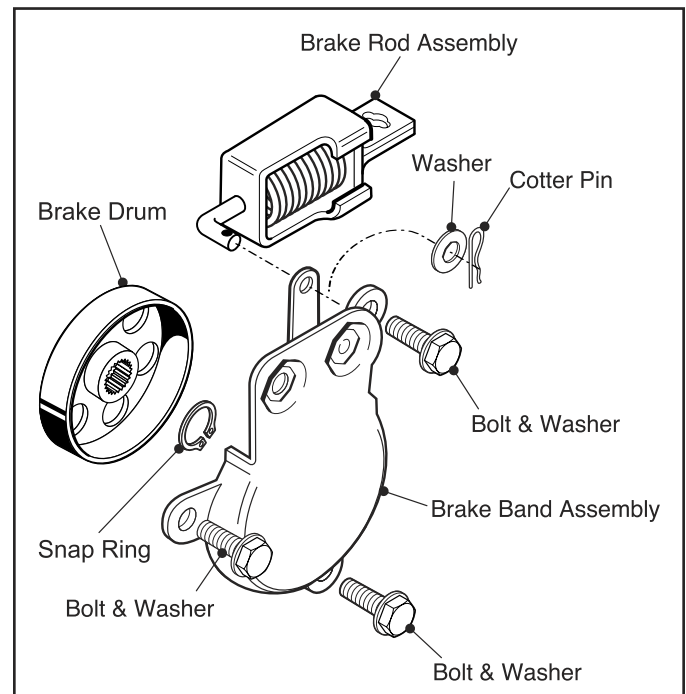
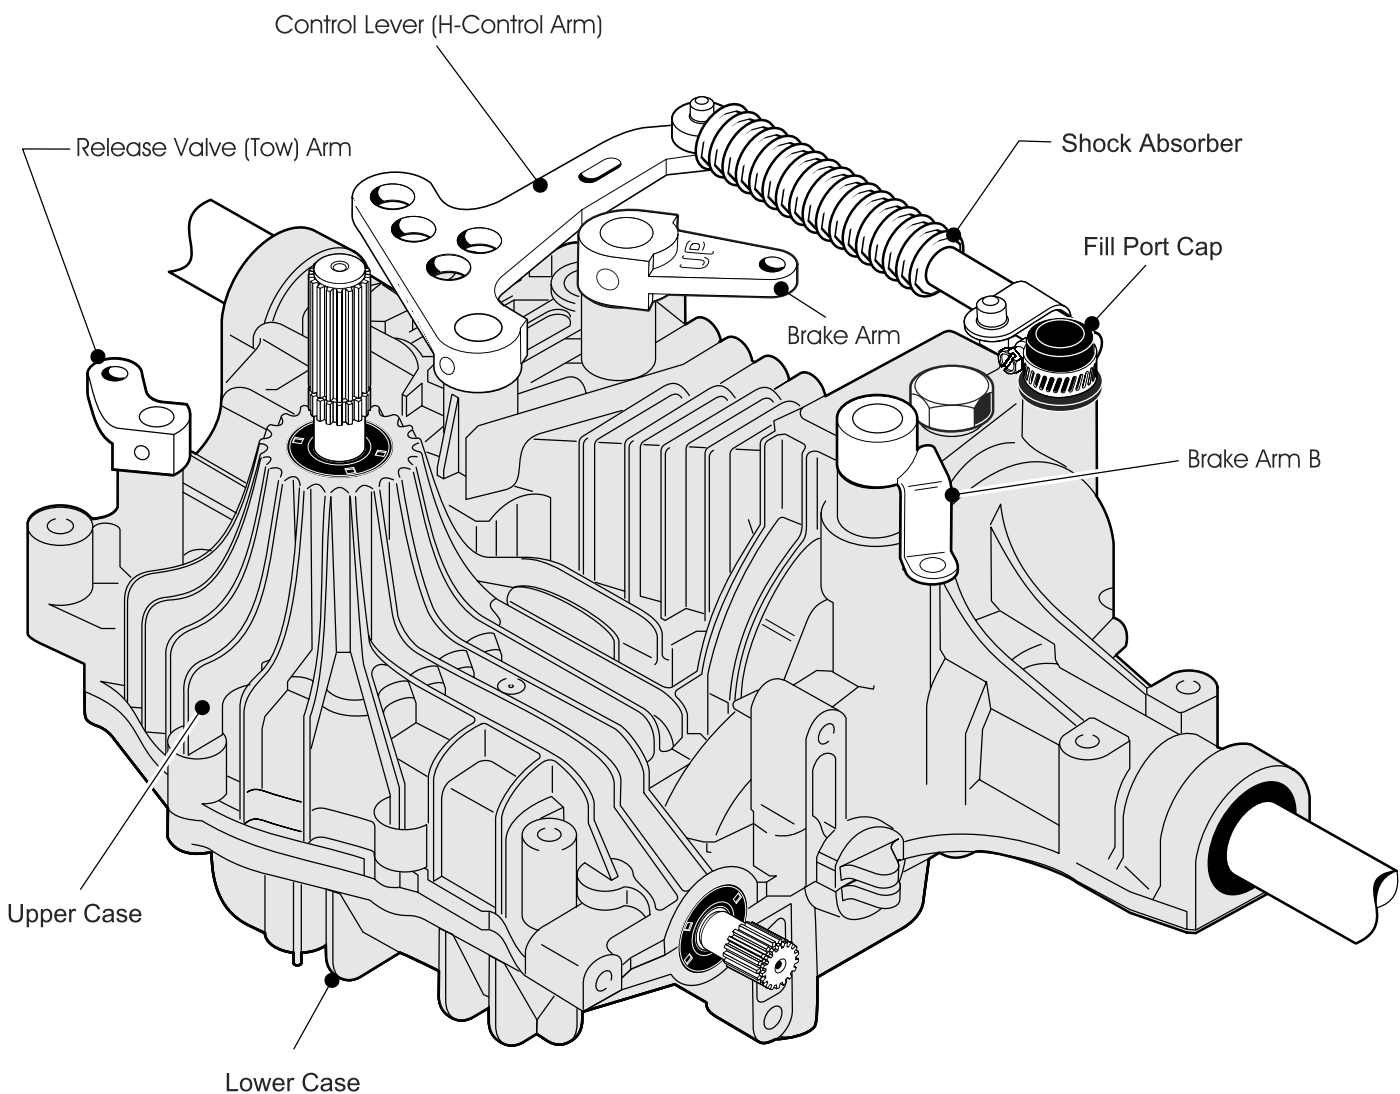

Fig. 2, Brake Assembly Removal
Fig. 3, Levers and Arms Removal
1. Remove the Cotter Pin and Washer from the Brake Rod Assembly. (Fig. 2)
2. Remove the Brake Rod Assembly from Brake Arm B (see Fig. 3) by pivoting 90 degrees and sliding downward. (Fig. 2)
3. Loosen and remove the (3) 8 mm bolts/washers (12mm wrench) and detach the Brake Assembly. (Fig. 2)
4. Remove Snap Ring (Snap Ring Pliers) and the Brake Drum from Brake Shaft. (Fig. 2)
1. Remove the Shock Absorber. (Fig. 3)